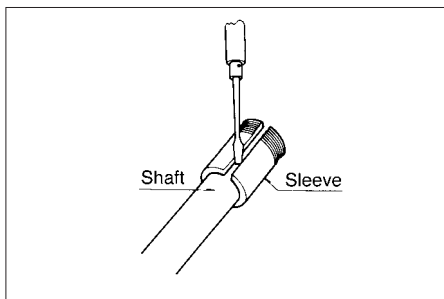

Fig.8.7
- 1) Fit the sleeve onto the shaft and position it so that its tapered section is roughly centered to the bearing. For easy fitting of the sleeve to the shaft, expand its slot with a flatblade screwdriver. Be sure to install the sleeve so that the nut is positioned opposite to pulley, etc., for easy handling of the bearing unit (**Fig.8.7**).